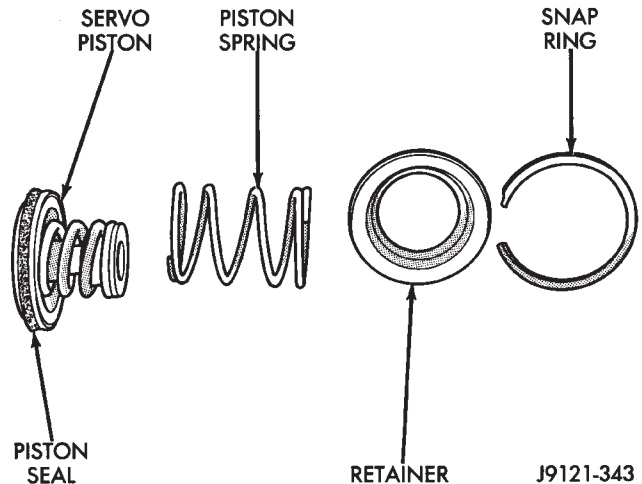

Fig. 114 Rear Servo Components
(1) Install rear servo piston, spring and retainer (Fig. 114). Install spring on top of servo piston and install retainer on top of spring.